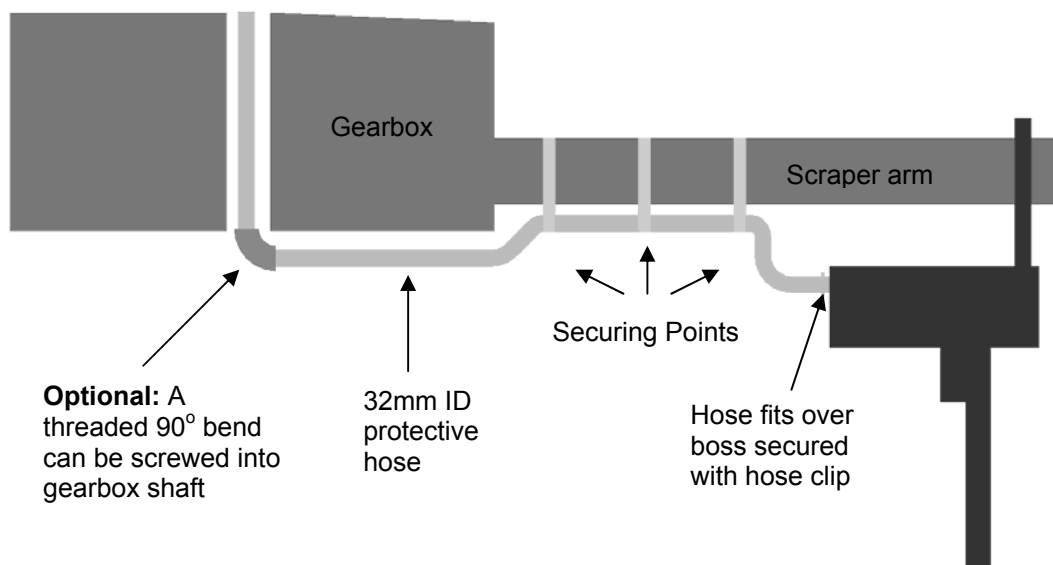

Figure 16 – Fitting the cable with good clearance
- Metal straps to be welded or bolted as appropriate to provide securing points for the rubber hose and cable. Suggested details in Figure 16.